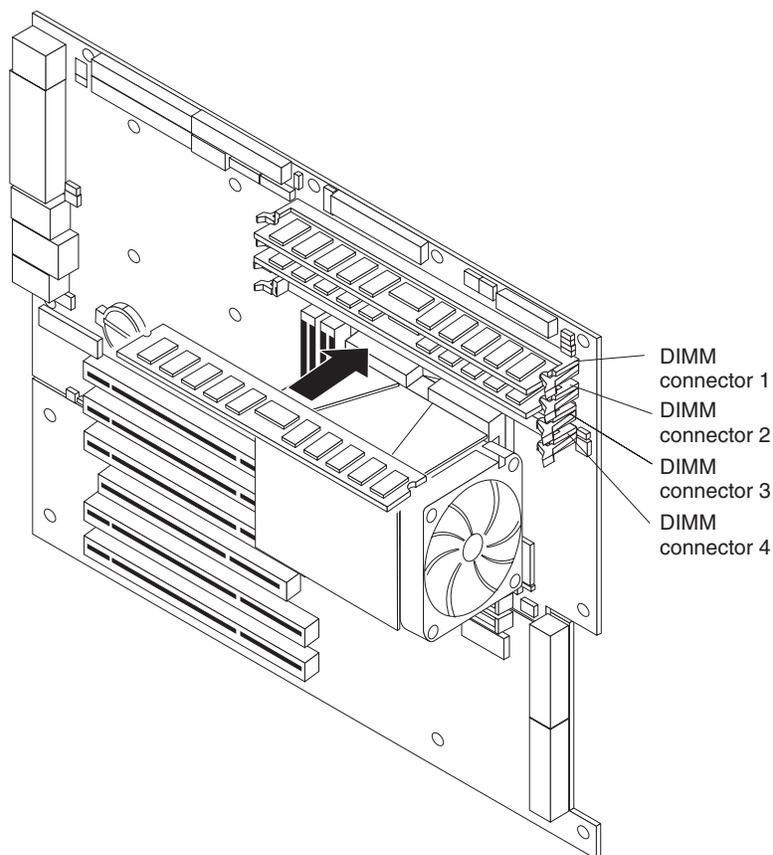

Figure 21. Installation of DIMMs 1-4
11. Insert the DIMM into the connector (see Figure 21). Firmly press the DIMM straight down into the connector by applying pressure on both ends of the DIMM simultaneously. The retaining clips snap into the locked position when the DIMM is firmly seated in the connector. If there is a gap between the DIMM and the retaining clips, the DIMM has not been correctly installed. Open the retaining clips, remove the DIMM, and then reinsert it.